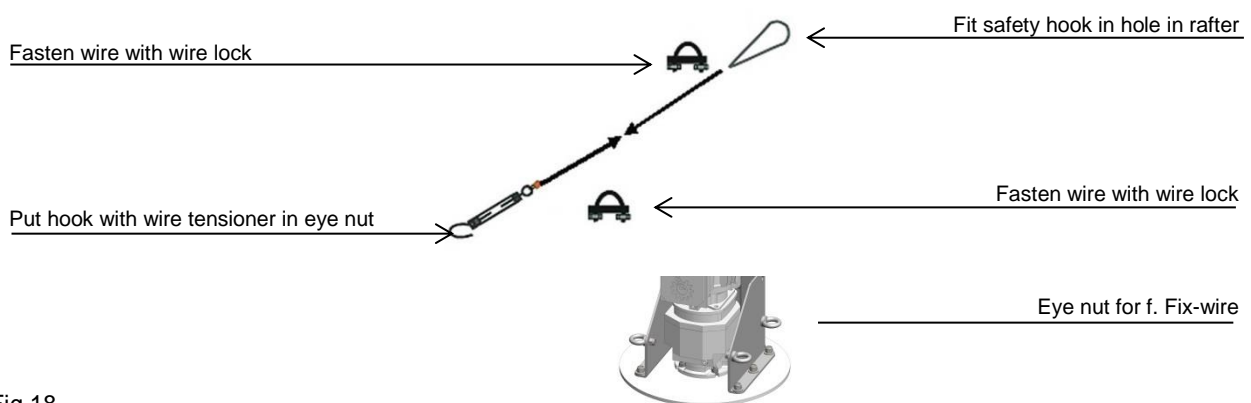

Fig.18
**NOTE** Tighten the wire with a wire strainer, hard by hand, then turn 3 times (Fig.18).